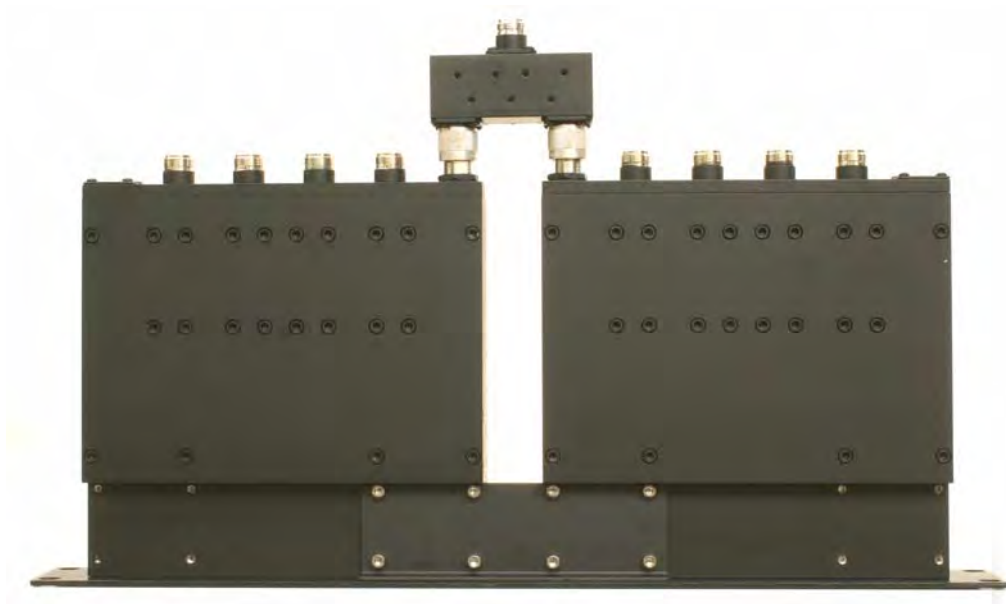

Figure A3: Stabilizer bracket attached to a pair of 4-Way Control Stations.
- 5) Re-attach the bracket stabilizer plate beneath both 4 channel combiner assemblies as shown in **Figure A3**. The stabilizer bracket will now provide support for both assemblies. Use the four additional 8-32 x 1/2" SS screws provided in the kit.